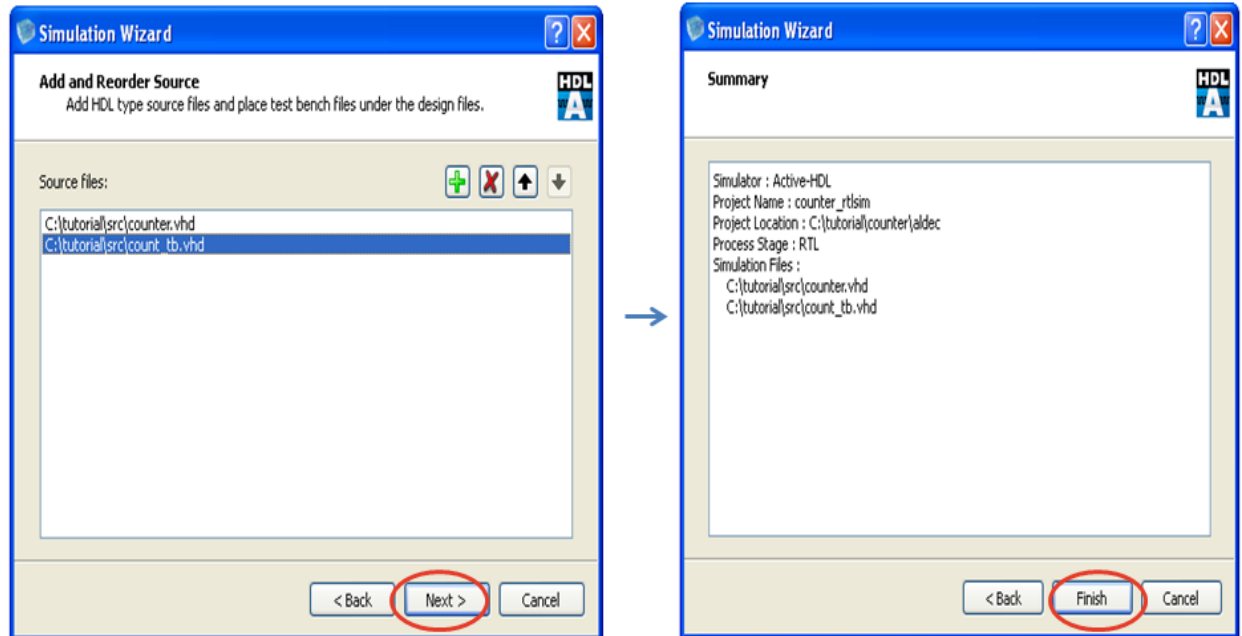

Figure 10-5: Add test bench and Complete Simulation Wizard.
4. Add “count_tb.vhd” test bench file **and click on** “Next”. Click on “Finish” in the summary page as shown in Figure 10-5.